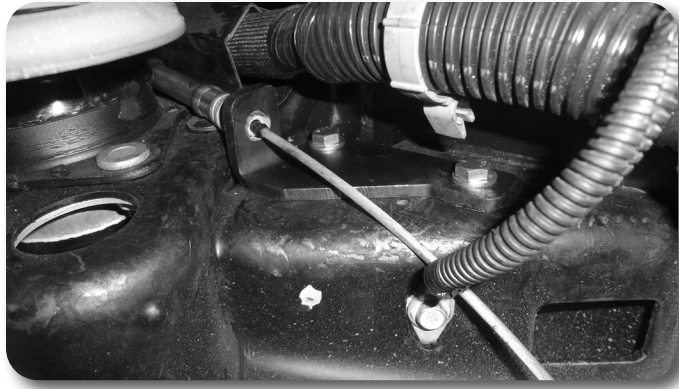

Figure 18
36. Insert the E-brake relocation bracket through the cable and up to the front body mount on the inner fender. Attach the E-brake relocation bracket to the two factory holes on the frame with the two provided 5/16" x 1" bolts, 5/16" washer, and 5/16" nuts. **Figure 18** Make sure the cable snaps into the new relocation bracket.